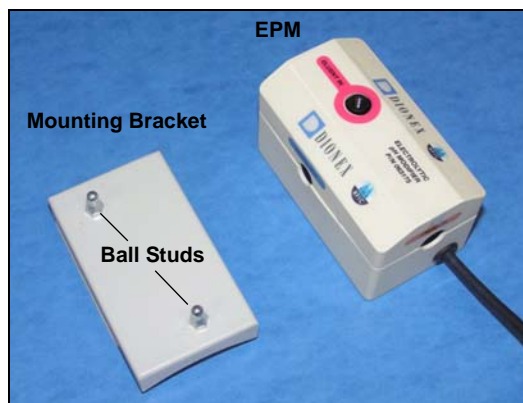

Figure 5-63. EPM and Mounting Bracket
7. Push the EPM onto the ball studs on the mounting bracket (see Figure 5-63).